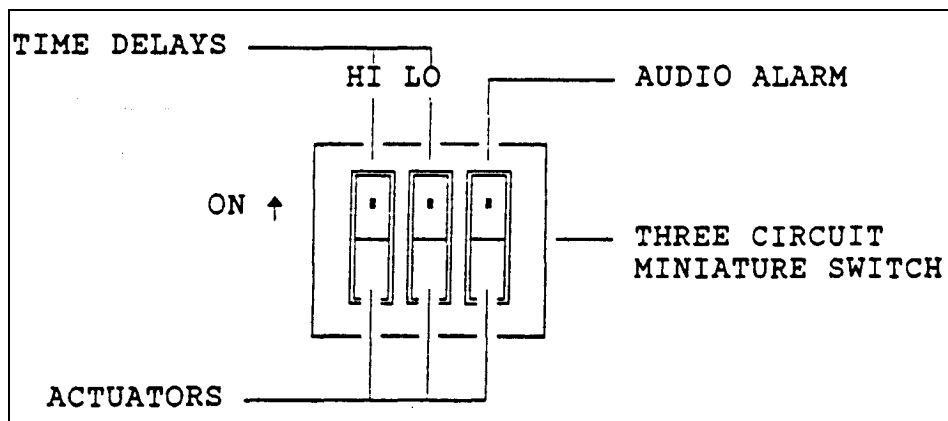

FIGURE 1.1 THREE CIRCUIT MINIATURE SWITCH
14. THREE CIRCUIT MINIATURE SWITCH -Each actuator on the miniature switch controls a different circuit as shown in Figure 1-1. If the actuator is set in the UP position, its corresponding circuit is ON. If the actuator is set in the DOWN position, the circuit is OFF.
When power is applied, the green power LED will light. A one-minute time delay eliminates false alarms from occurring during the sensor's warm-up period. After this delay, the unit becomes fully operational. If time delays are required or the audio alarm indicator is not needed, the three-circuit miniature switch can be set accordingly (refer to Section 1.1, item 14 and Figure 1-1).